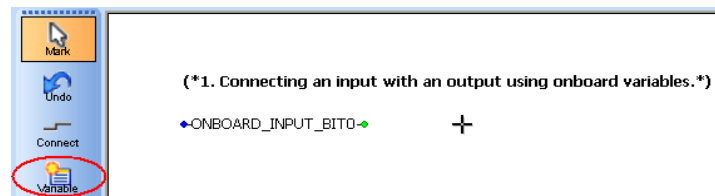

Figure 5-29 System variable created: Input
- Click in the worksheet again (see Figure 5-29) to set a cursor.